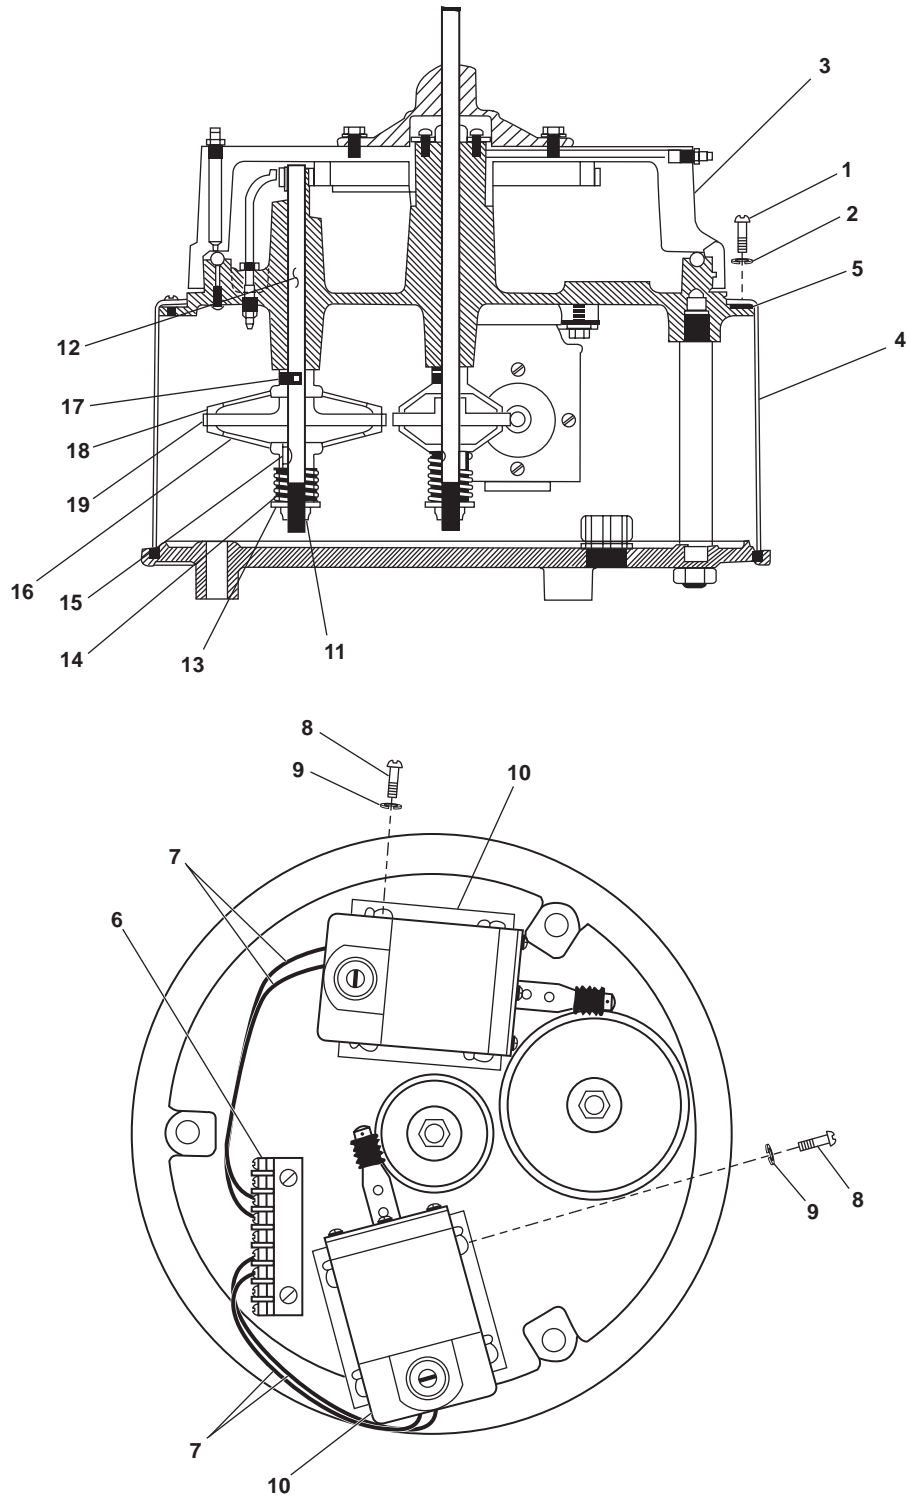

Figure 4. Searchlight Base Assembly
3. Remove the eight screws (figure 4, item 1) and eight lockwashers (figure 4, item 2) from the upper base assembly (figure 4, item 3).
4. Remove the upper base assembly (figure 4, item 3) from the lower base assembly (figure 4, item 4).
5. Remove the gasket (figure 4, item 5) from the lower base assembly (figure 4, item 4). Discard the gasket.
6. Use a multimeter to check for voltage at the terminal block (figure 4, item 6). If voltage is present, ensure that the proper circuit breaker is secured, locked out, and tagged out (FM 55-502). If no voltage is present, continue with the procedure.
7. Label and remove the motor (up and down/left and right) wiring (figure 4, item 7) from the terminal block (figure 4, item 6).
8. Remove the four screws (figure 4, item 8) and four lockwashers (figure 4, item 9) from the motor (up and down/left and right) (figure 4, item 10). Discard the lockwashers.
9. Remove the motor (up and down/left and right) (figure 4, item 10) from the lower base assembly (figure 4, item 4).
1. Install the motor (up and down/left and right) (figure 4, item 10) in the lower base assembly (figure 4, item 4).
2. Install the four screws (figure 4, item 8) and four new lockwashers (figure 4, item 9) in the motor (up and down/left and right) (figure 4, item 10).
3. Connect motor (up and down/left and right) wiring (figure 4, item 7) to the terminal block (figure 4, item 6) using the labels from step 7 of Removal as a guide. Remove the labels.
4. Install a new gasket (figure 4, item 5) on the lower base assembly (figure 4, item 4).
5. Install the upper base assembly (figure 4, item 3) on the lower base assembly (figure 4, item 4).
6. Install the eight screws (figure 4, item 1) and eight new lockwashers (figure 4, item 2) in the upper base assembly (figure 4, item 3).
11. If the force required to slip the clutch is not within the required range, perform steps 1-5 of Removal and adjust the nut (figure 4, item 11). Tighten the nut to increase the force required; loosen the nut to decrease the force required.
2. Remove the self-locking nut (figure 4, item 11) from the shaft (figure 4, item 12). Discard the self-locking nut.
3. Remove the flat washer (figure 4, item 13) and spring (figure 4, item 14) from the shaft (figure 4, item 12).
4. Remove the woodruff key (figure 4, item 15) from the shaft (figure 4, item 12).
5. Remove the lower clutch plate (figure 4, item 16) from the shaft (figure 4, item 12).
6. Remove the setscrew (figure 4, item 17) from the upper clutch plate (figure 4, item 18).
7. Remove the upper clutch plate (figure 4, item 18) and worm gear (figure 4, item 19) from the shaft (figure 4, item 12).
1. Install the upper clutch plate (figure 4, item 18) and worm gear (figure 4, item 19) on the shaft (figure 4, item 12).
2. Install the setscrew (figure 4, item 17) in the upper clutch plate (figure 4, item 18).
3. Install the lower clutch plate (figure 4, item 16) on the shaft (figure 4, item 12).
4. Install the woodruff key (figure 4, item 15) in the shaft (figure 4, item 12).
5. Install the flat washer (figure 4, item 13) and spring (figure 4, item 14) on the shaft (figure 4, item 12).
6. Install a new self-locking nut (figure 4, item 11) on the shaft (figure 4, item 12).